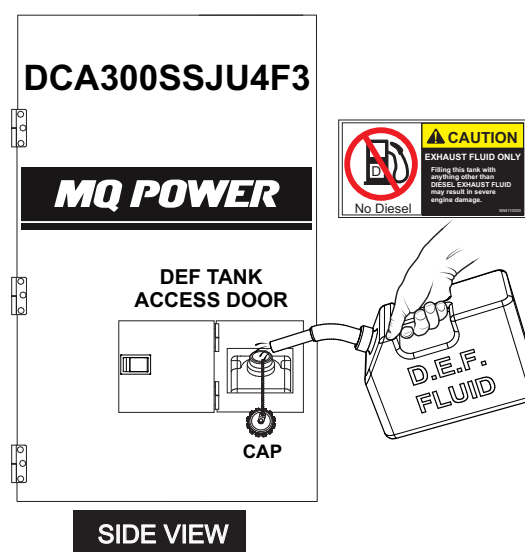

Figure 44. DEF Tank Filling (DCA300SSJU4F3)
3. For DCA300SSJU4F3 generators, open the **DEF access door** (Figure 44), remove filler cap, and fill with DEF fluid.